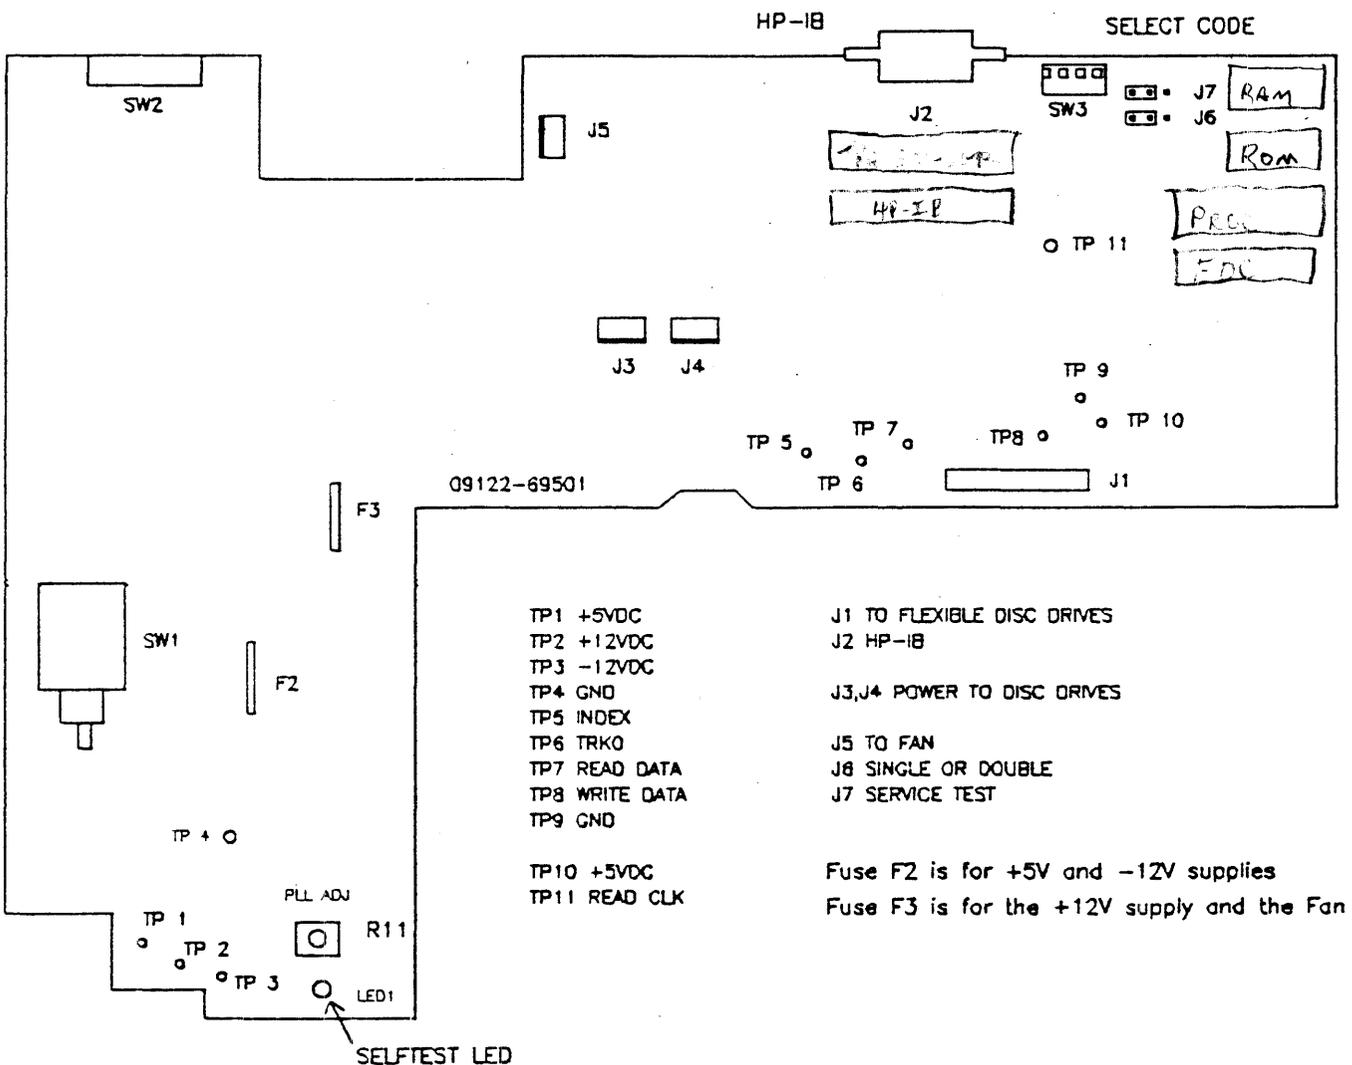
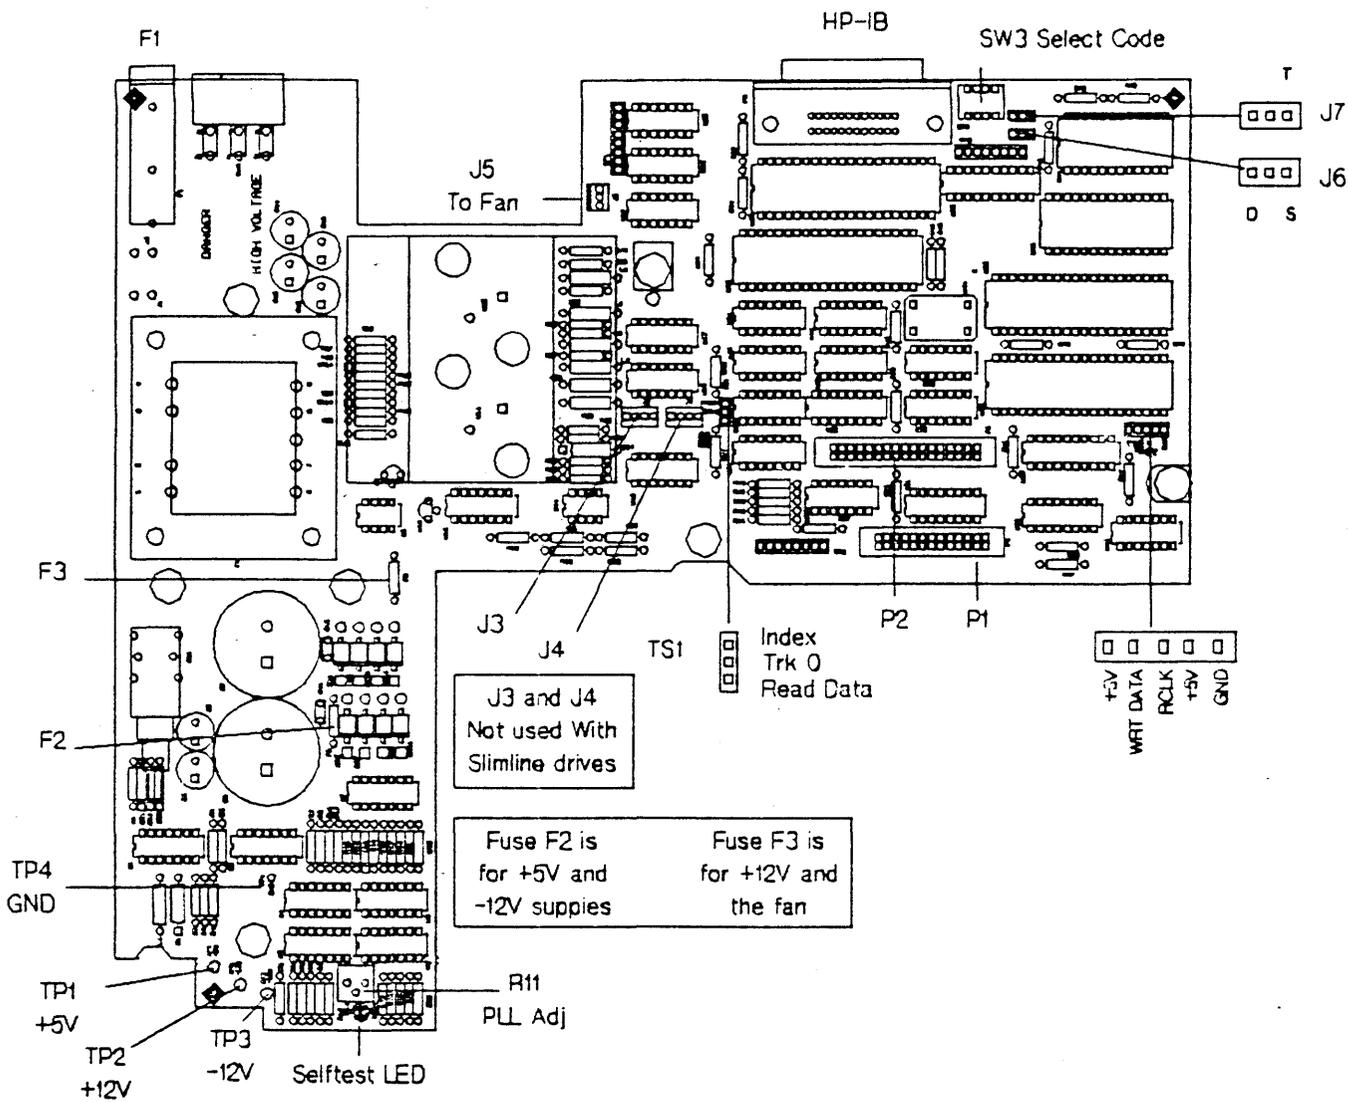

Figure 4-1. Controller and Power Supply PCA(09122-69511)
Figure 4-2. Controller and Power Supply PCA (09122-69504)
Figure 4-1 represents the power supply and controller electronics (S/N Prefix 2518A and below) of the printed circuit assembly (PCA). Figure 4-2 represents the supply and controller electronics (S/N Prefix 2614A, 2615A and above) of the PCA.
The following information applies to both controller PCAs shown in Figure 4-1 and 4-2. Jumper J6 is used to configure the controller PCA for either a single disc drive or for two disc drives (9122S or 9122D respectively). J7 is used to start the service tests. Jumper J6 is shown in the 9122D position, and J7 is shown in the normal operating position.
4. Short the TEST jumper pins J7, see figure 4-1 or 4-2, with a jumper to start the test; **LEAVE SHORTED TO LOOP ON THE SELECTED TEST.**
3. Check power supply voltages on the controller/power PCA. (See Figure 4-1, 4-2). Repair by replacing fuses F2 (-12V and +5V) or F3 (+12V) on controller PCA or replacing controller PCA.